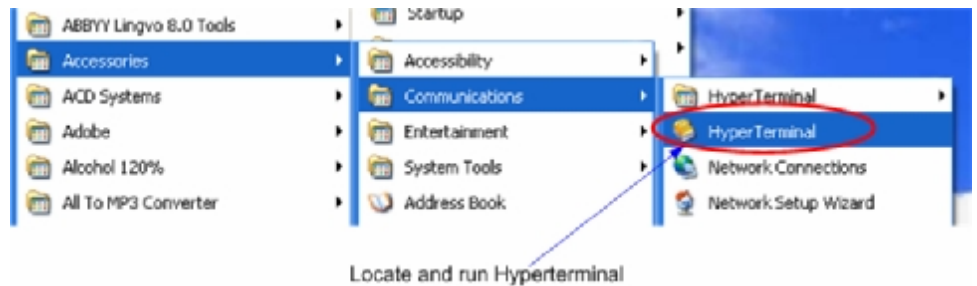

Figure 4. Locate Hyperterminal
6. Run Hyperterminal. See Figure 4